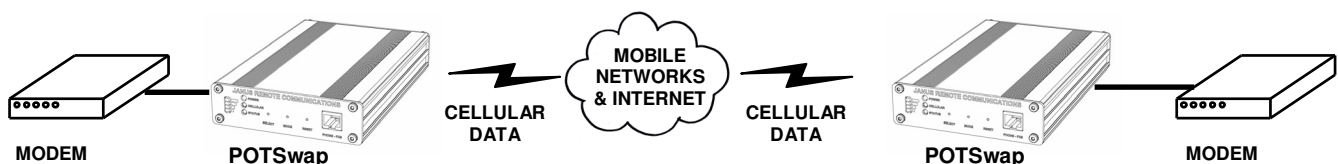

Figure 4 Data Operation – Modem to Modem
- Figure 4. Data Operation – Modem to Modem